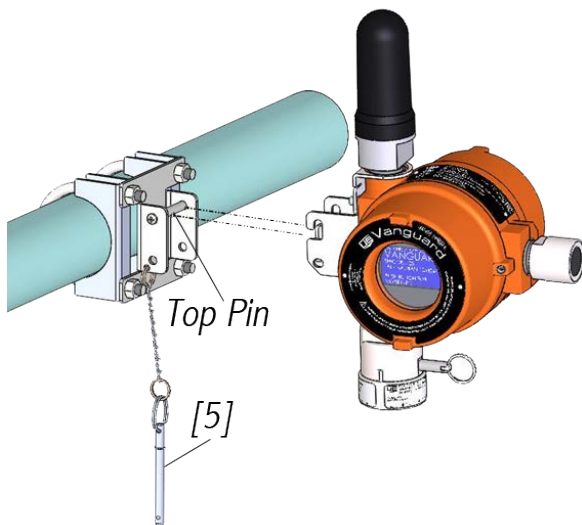

Figure 18
6. Mount device by hooking onto top pin of mounting bracket plate (see Figure 18).